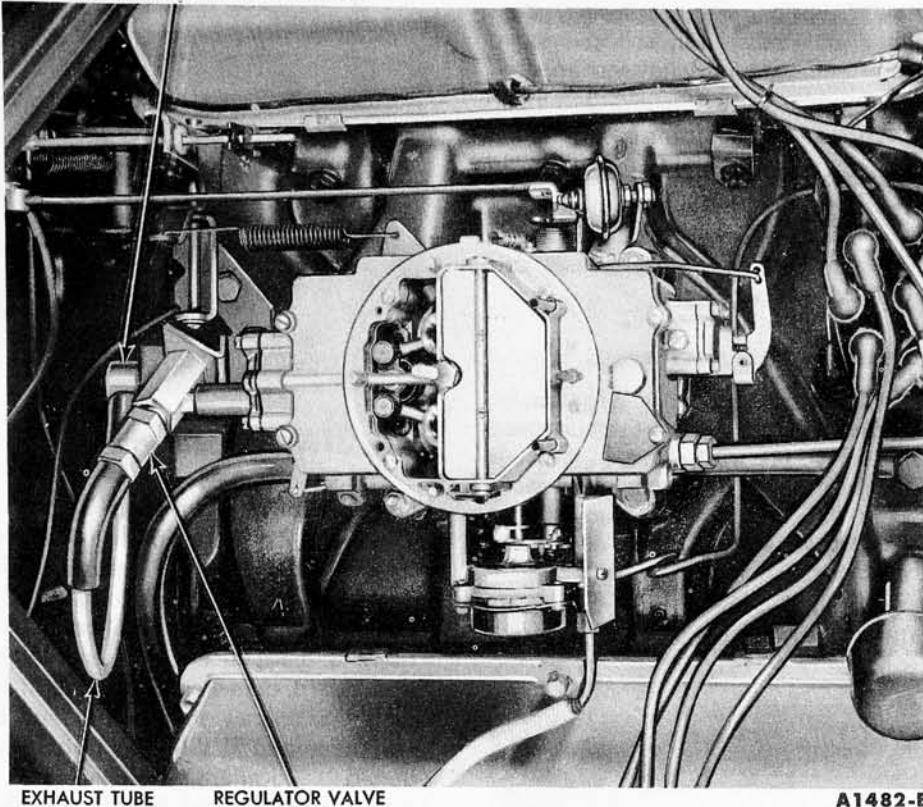

FIG. 24—Regulator Valve and Exhaust Tube
1. Disconnect the exhaust tube at the crankcase ventilation outlet and regulator valve and remove the tube. Remove the exhaust tube that connects to the spacer (Fig. 24).